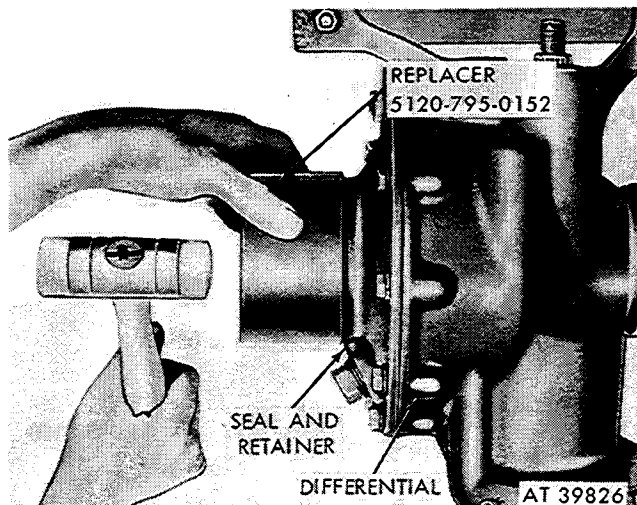

Figure 2-307. Install seal and retainer using replacer (FSN-5120-795-0152).
b. *Installation.* Lubricate side gear flange seal lips with grease (GAA) and coat seating surface with compound sealer (FSN 8030-656-1426). Install side gear flange seal and retainer in differential, using replacer (5120-795-0152) as shown in figure 2-307. Install side gear flange in differential as instructed in paragraph 2-135.